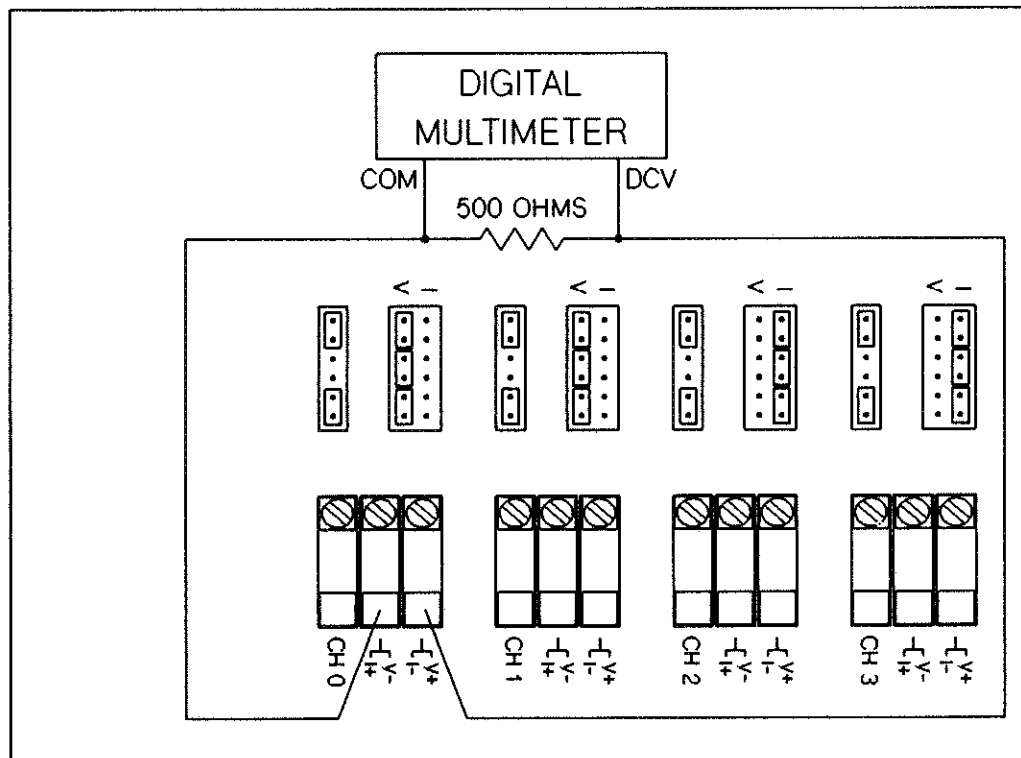

Figure 15-9 HP 44727A/B/C Maximum Current/Load Tests
2. Set the multimeter to measure dc volts. On the test fixture, connect the multimeter DCV input to the V+ connection and connect the COM input to the V- connection of the channel to be tested. Connect a 500 ohm resistor across the channel's V+ and V- connections. The connections are shown in Figure 15-9.